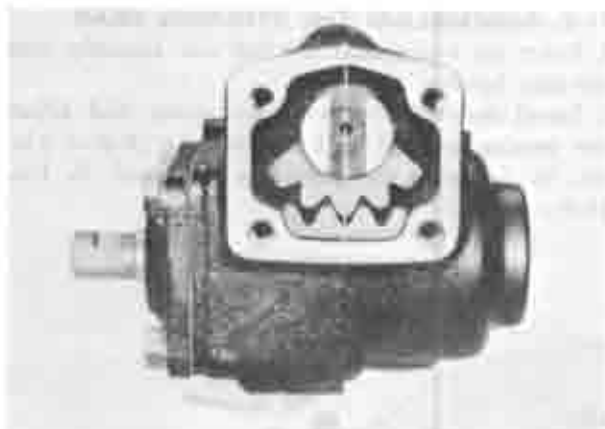

Fig. 11-7. Align center of rack and sector gear
4. Turn the worm shaft and place the rack in the center position of the worm. Insert the sector shaft and adjusting screw into the gear housing, being careful not to damage the oil seal, and ensuring that the center of the sector gear is aligned with the center of the rack as shown in Fig. 11-7.